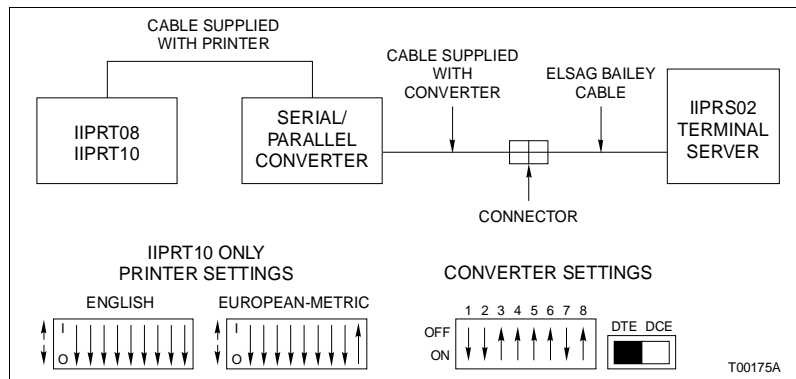

Figure PR40-1. Printer Cable Configuration and Dipswitch Settings
- 3. Connect the cable supplied with the printer from the printer to the serial/parallel converter (Fig. PR40-1).